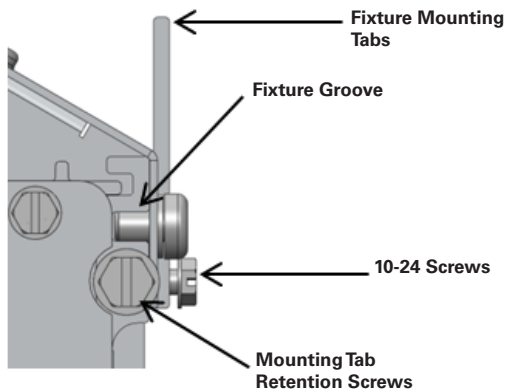

Figure 4
2. Install the ¼-20 screws provided with the dust cover (see Figure 1). Screws will self-thread into the grooves on the sides of the luminaire (see Figure 4). Tighten screw until flush with surface (25 in.-lbs.). The quantity of screws holding the cover to the luminaire varies depending on the lumen configuration (see Chart 1). Ensure the dust cover is properly positioned and secured to the luminaire.
- Mounting tabs are located 1" from each end of the luminaire from the factory (see Figure 4). If mounting tabs need to be relocated or become loose, tighten the 10-24 screws to 21 in.-lbs. before hanging the luminaire. Mounting tab retention bolts should be tightened to 65 in.-lbs. in all four corners of the luminaire. Mounting tabs should be placed equal distance from the ends of the luminaire to assure the luminaire hangs level.
- Chains should be cut to equal lengths to assure the luminaire hangs level. Install four (4) hooks and four (4) chains to the luminaire. One hook and one chain per mounting bracket found at each corner of the luminaire. Mount the luminaire a minimum of 36 inches away from the ceiling.
- Mounting tabs are located 1" from each end of the luminaire from the factory. If mounting tabs need to be relocated or become loose, tighten the 10-24 screws to 21 in.-lbs. (see Figure 4) before hanging the luminaire. Mounting tab retention bolts should be tightened to 65 in.-lbs. in all four corners of the luminaire. Mounting tabs should be placed equal distance from the ends of the luminaire to assure the luminaire hangs level.
- Install two (2) aircraft cable assemblies to the luminaire with one aircraft cable assembly at each end of the luminaire (refer to IF 1726 for more information). Do not exceed an angle greater than 30° between the cables and the gravity line. Adjust the length of the aircraft cable assembly to assure the luminaire hangs level. Mount the luminaire a